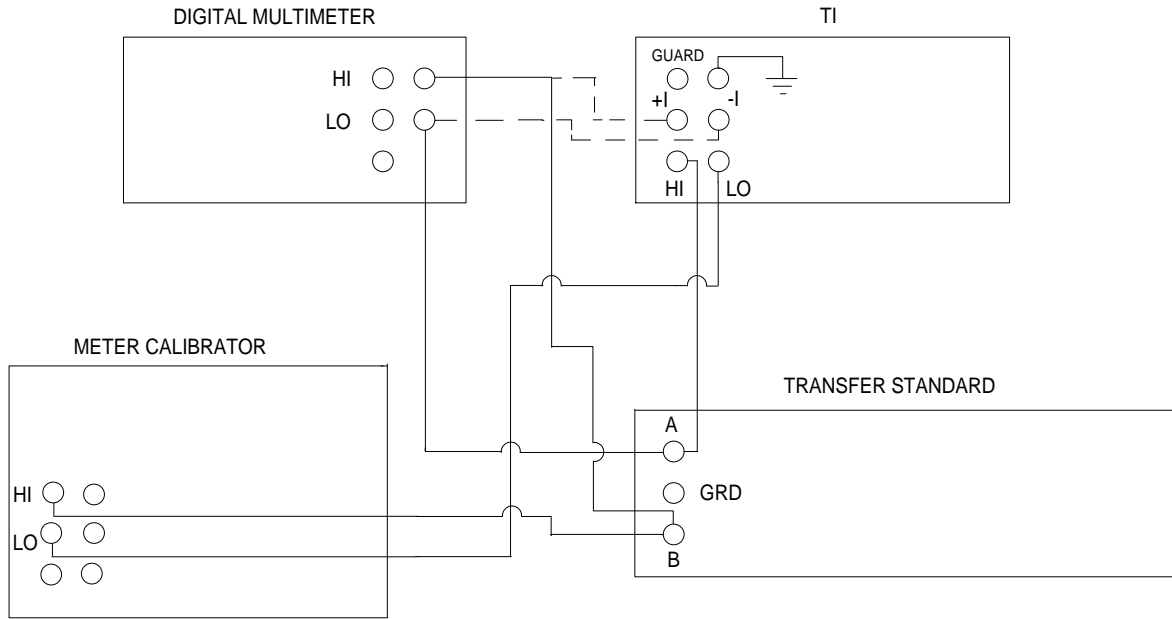

Figure 2A.
*² Use Transfer Standard (2.19) and Figure 2A for these values.